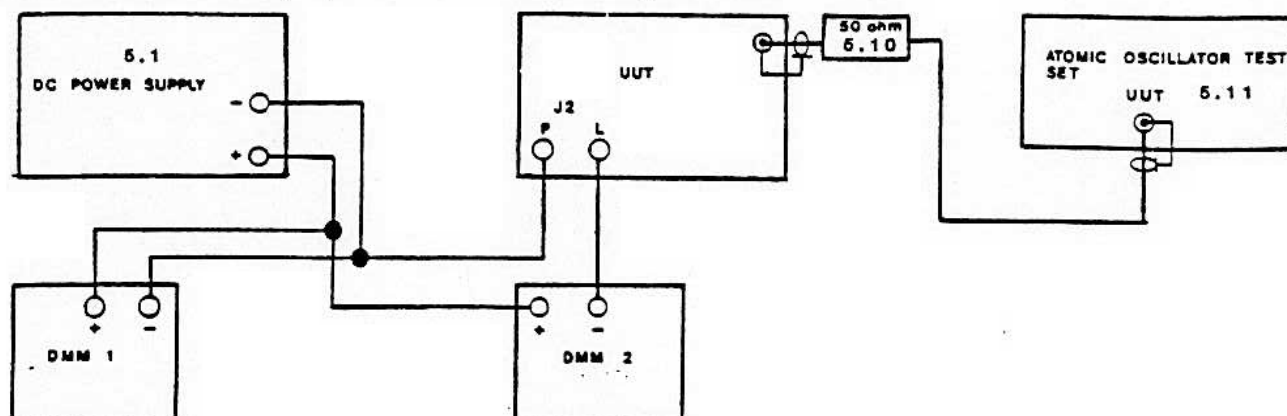

Figure 5.1. Warm-up Current, Frequency Accuracy, and Input Power Test Configuration.
5.6.1 Connect the equipment as shown in Figure 5.1
5.7.1 Ensure that the equipment is connected as shown in Figure 5.1, (DMM #2 is not required for this test).
5.8.1 Ensure that the equipment is connected as shown in Figure 5.1, (DMM #2 is not required for this test).
5.12.1 Connect the equipment as shown in Figure 5.1.